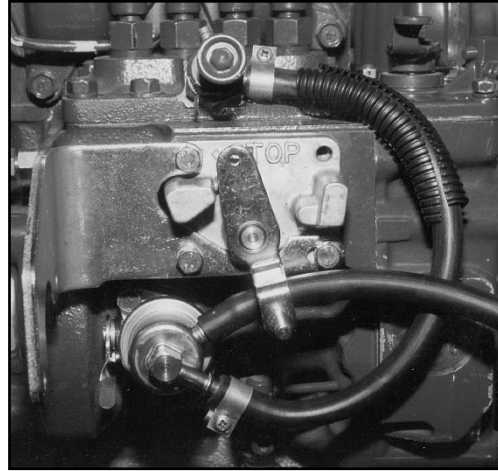

Figure 9. Re-positioned Fuel Inlet/Outlet Tubes
- 2.9 Rotate pump 180°, attach new gasket, and re-install on engine with original cap screws. The fuel inlet/outlet tubes are now positioned as shown in **Figure 9**.
- 2.10 Loosen injection pump fuel inlet banjo fitting and rotate toward front of engine as shown in **Figure 9**.